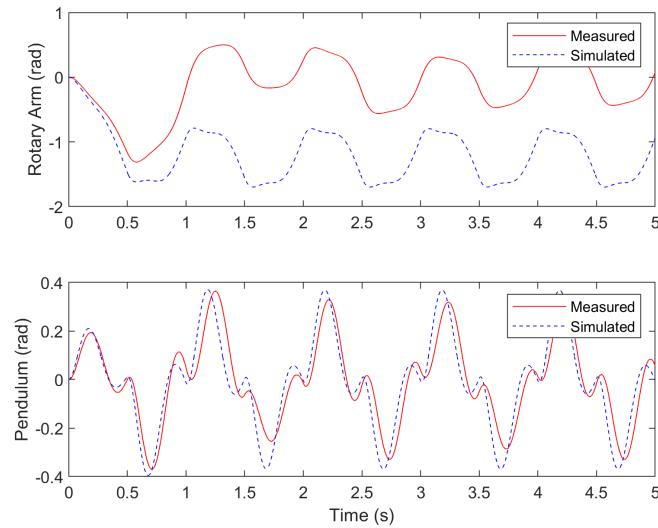

Figure Ans.2.1: Step response of the pendulum system.
- B-5 If the experimental procedure was followed correctly, the user should be able to run the model and obtain a response similar to Figure Ans.2.1.
- K-2 The rotary pendulum response is shown in Figure Ans.2.1. This can be generated using the MATLAB® script commands:
The pendulum response of the model represents the actual pendulum system accurately because in the simulated response (blue) matches the measured response (red) quite well in Figure Ans.2.1.